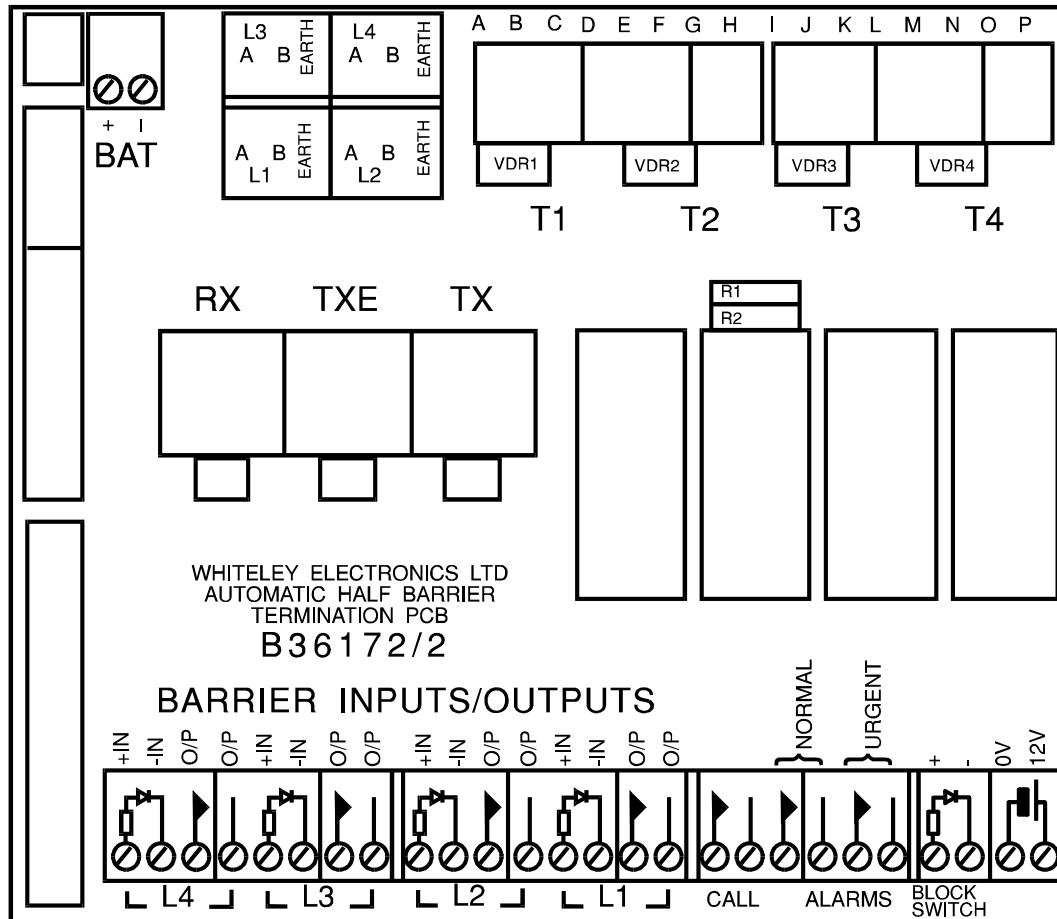

Fig 3.3 Cable Connection Circuit Board
3.1.12 Before re-fitting the cardframe within the case familiarise yourself with the termination card arrangement. This is also clearly detailed in fig 3.3.
The termination PCB is shown in fig 3.3 and provides all external interfaces. It should be noted that the equipment is designed to comply with BS6301 (Network and User electrical safety) in that all transmission circuits are isolated from the rest of the equipment. NB: Isolation voltage checks are conducted at 3.5kV RMS. To preserve this isolation, it is essential that transmission circuits do not share the same multi-pair cable as local connections.